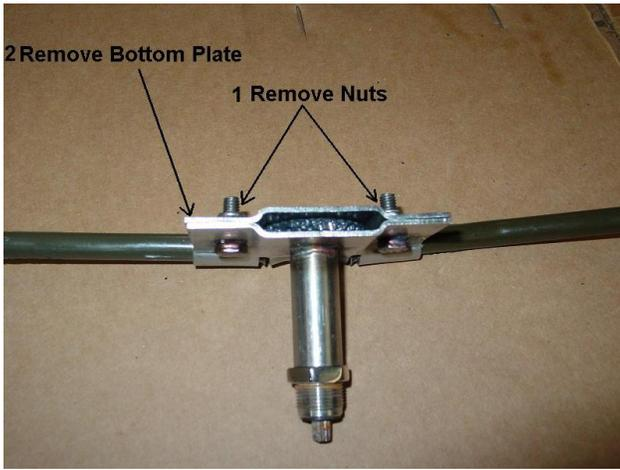

Fig. 17
12. Remove the nuts that hold the bottom plate on. *Fig. 17* Remove the bottom plate.